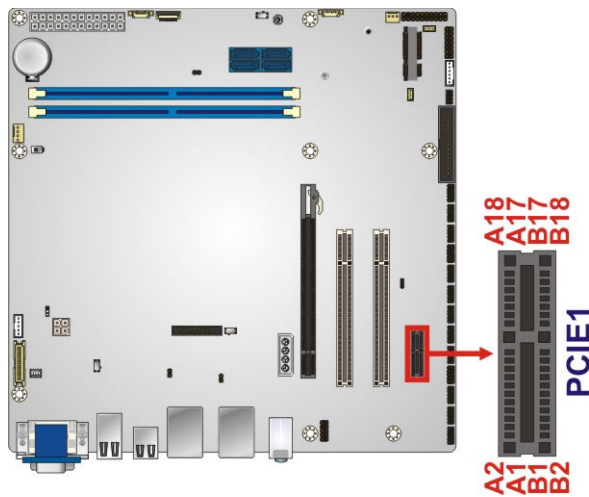

Figure 3-22: PCIe x1 Slot Location
- CN Location:** See **Figure 3-22**